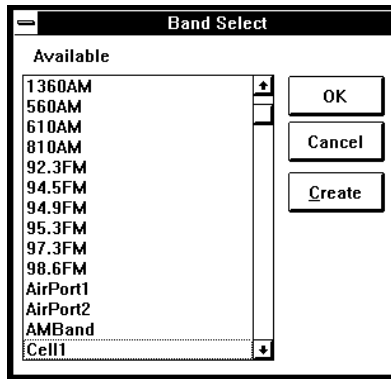

Figure 6-29: Band Select Dialog Box
7. To attach a frequency band or bands to a measurement, click on a measurement listed in the **Plan Display** to highlight it and then click on **B**and to open the **Band Select** dialog box (Figure 6-29).